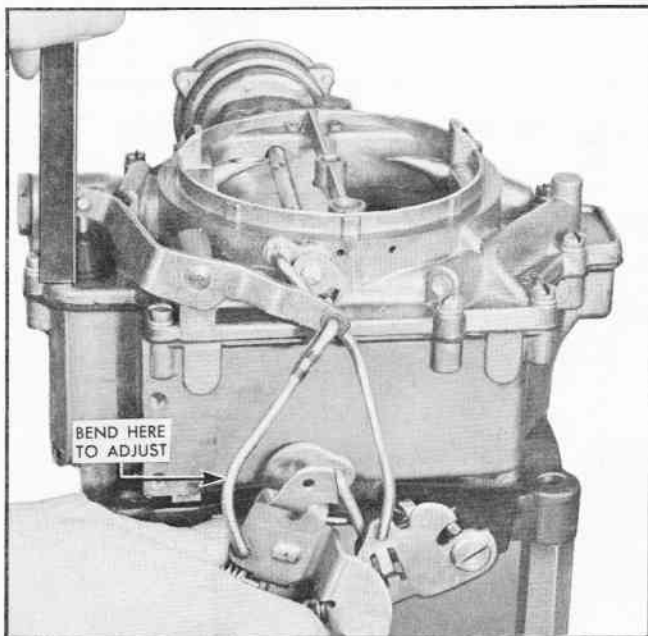

Fig. 25 Checking Pump Rod Adjustment
2. Hold throttle closed and measure from top of air horn casting to top of pump plunger rod (Fig. 25). Distance should be 1-1/16". Bend pump rod where shown to correct.